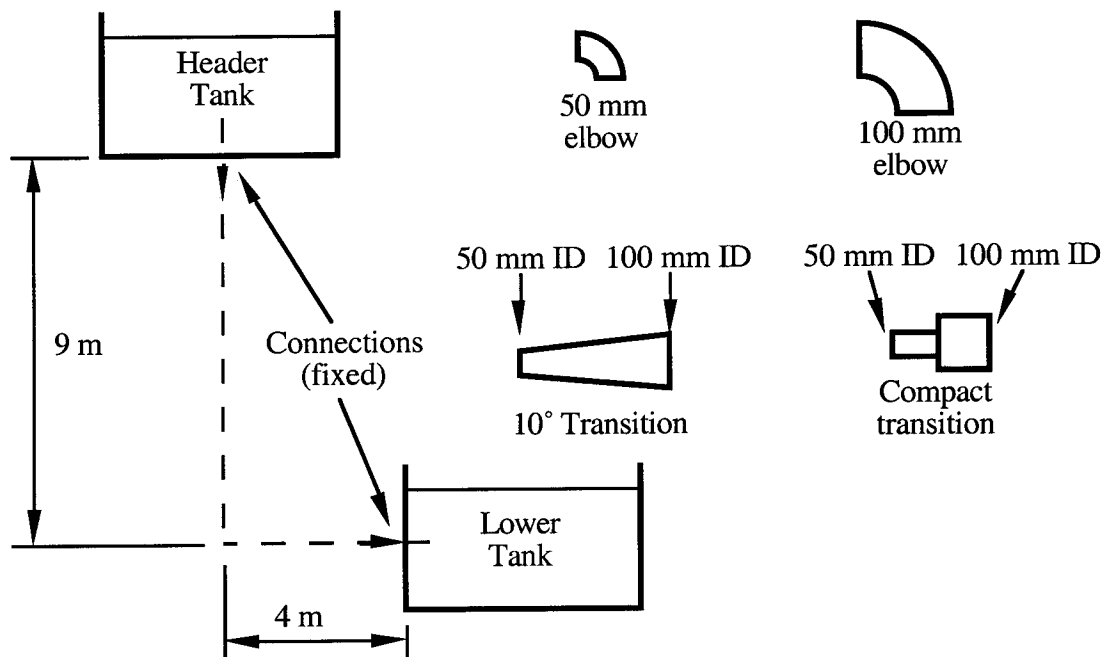

Figure 4. Tank-pipe system and some components.
b) [20 marks] You are asked to design a pipe system to carry water from a header tank to a lower tank, as shown in Figure 4 below. The pipe must connect to the tank walls at the locations shown and may extend into the tank. To achieve this you are given several pre-fabricated components. These are: